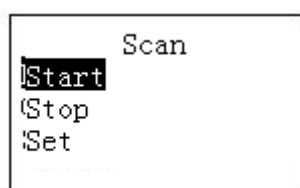

Figure 4-4
- On the keyboard click **【SCAN】** button, the interface is shown as below. See Figure 4-4.